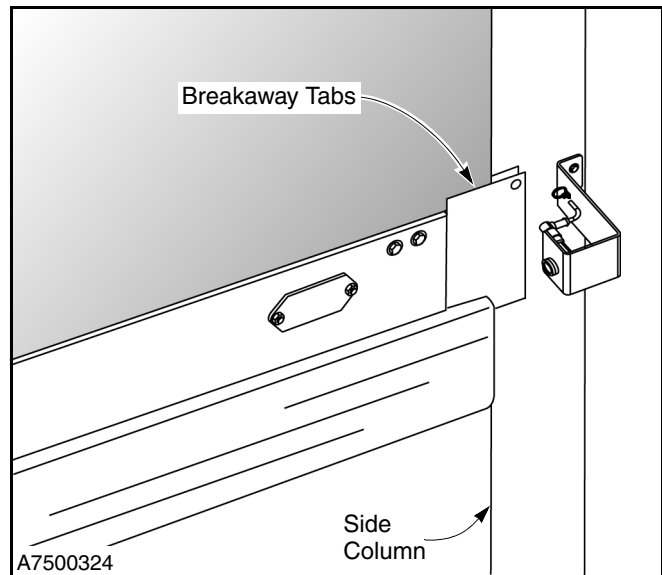

Figure 17
- Push the breakaway bottom bar out of one of the side columns. (See Figure 17.)